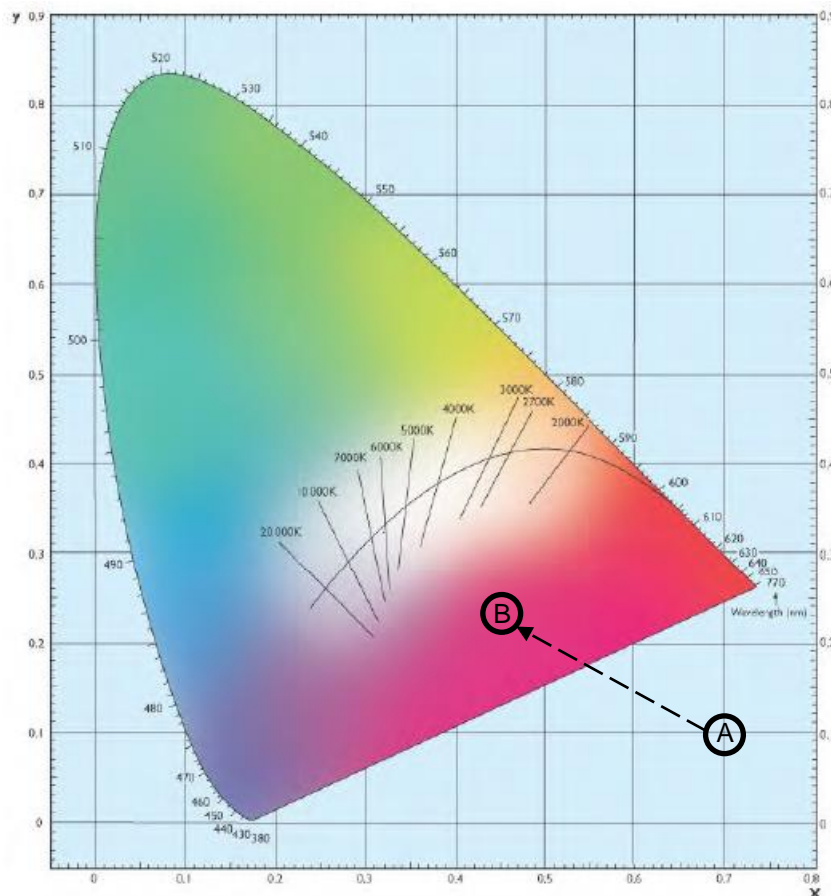

Figure 3-1. The CIE color space chromaticity diagram, 1931 Cambridge University Press
- 1) Please select and input the representable colors XY-coordinate according to the CIE color space (Figure 3-1)